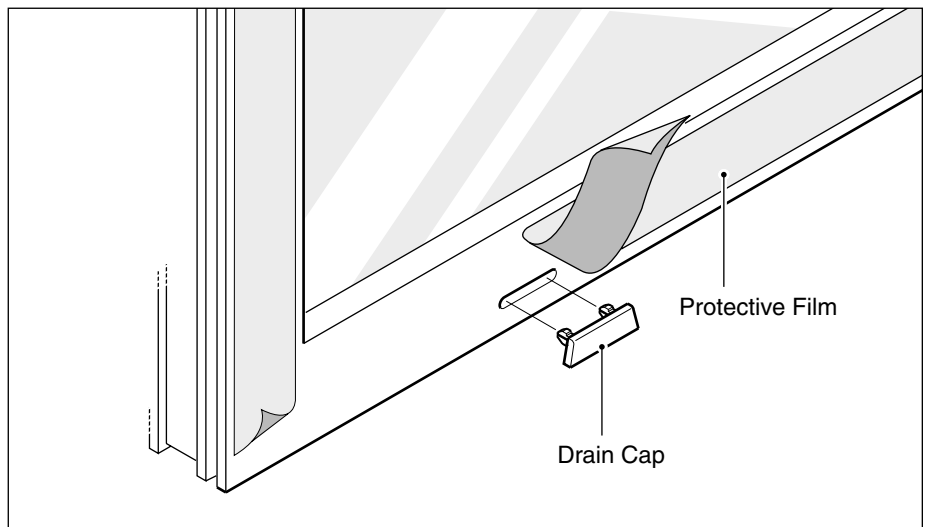

Figure 3-6. How to remove the protective film and install the drain caps — exterior view
- 2.9 Remove protective film from all profiles immediately after installation. See fig. 3-6.